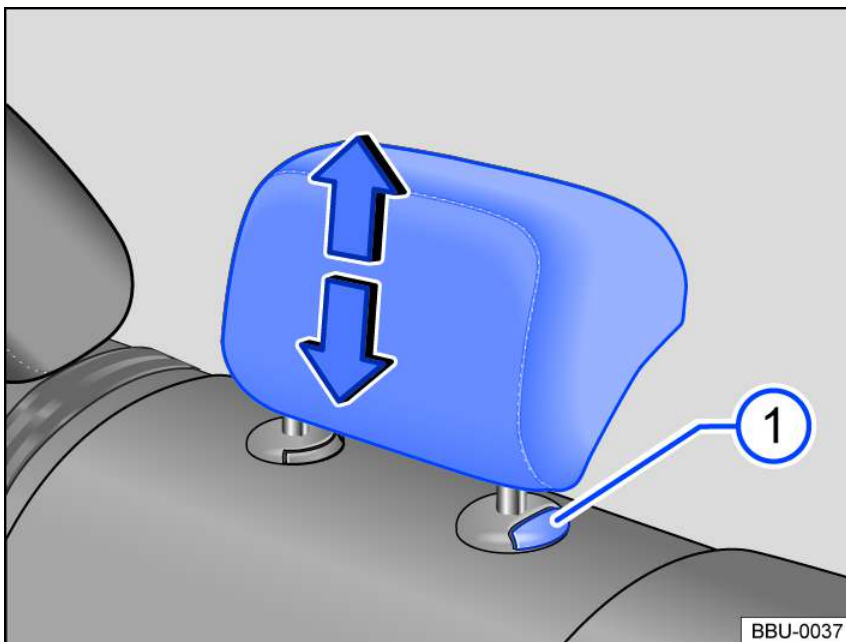

Fig. 73 Rear center head restraint: adjust.
- If necessary, slide the head restraint upward or downward in the direction of the arrow and when pressing the fig. 73 ① button.